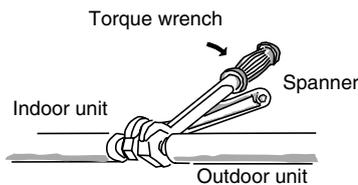

Fig. 7-6
- (2) Tightly connect the indoor-side refrigerant tubing from the wall with the outdoor-side tubing.
- (3) To fasten the flare nuts, apply specified torque.
- When removing the flare nuts from the tubing connections, or when tightening them after connecting the tubing, be sure to use 2 adjustable wrenches or spanners. (Fig. 7-6) If the flare nuts are over-tightened, the flare may be damaged, which could result in refrigerant leakage and cause injury or asphyxiation to room occupants.